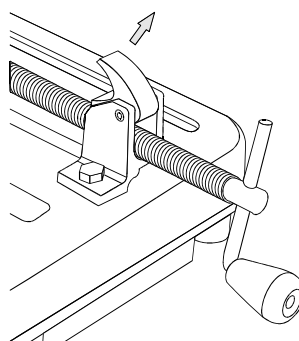

Figure 8
1. To operate the quick release system, turn the vise crank counterclockwise 2 or 3 turns to loosen the vise jaws. (Figure 8)